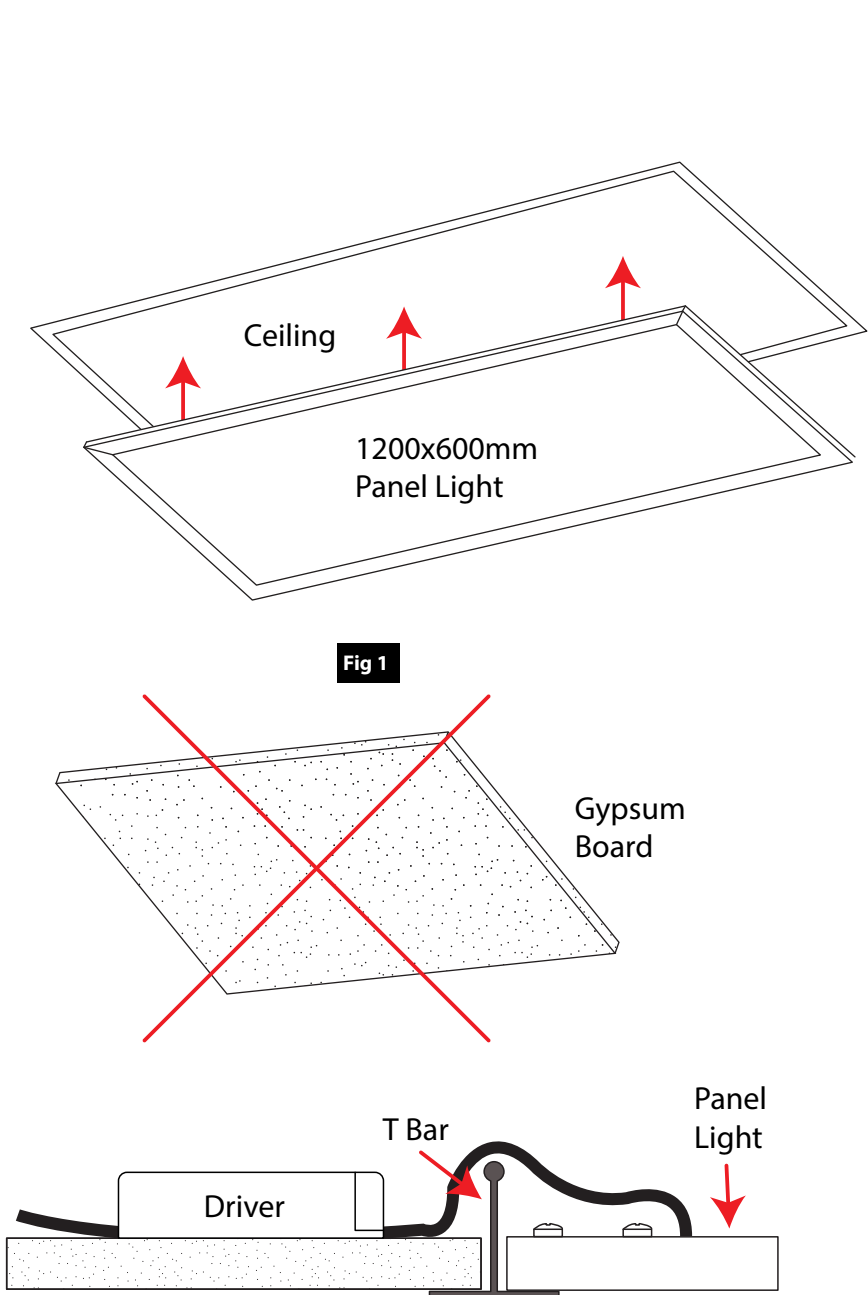

FIG 2 - Ceiling Hanging Of The Panel Light
- 5) Suspension of the panel can be achieved by purchasing the suspension kit: **SUSPACK**. (See Fig 2 for instructions).